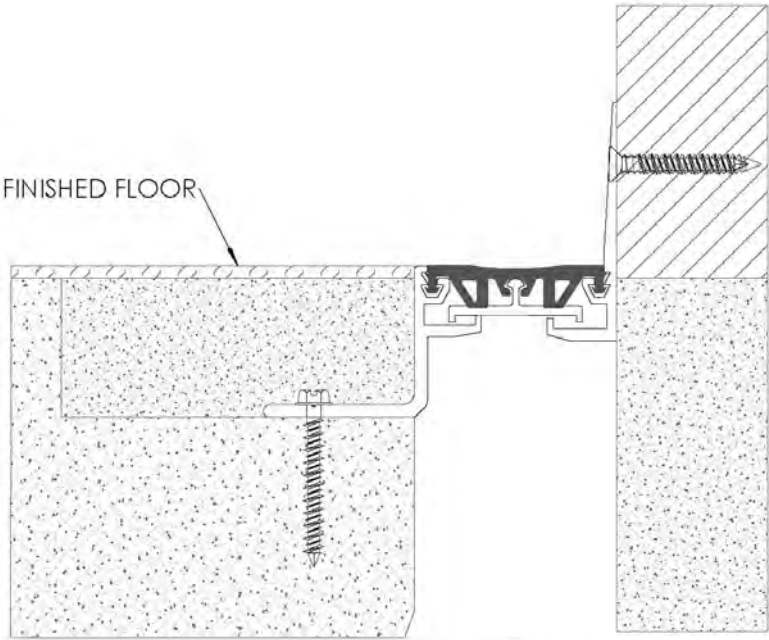

FIGURE 7
- 7. After infill material has cured, finished floor (by others) may now be installed. **See Figure 7**